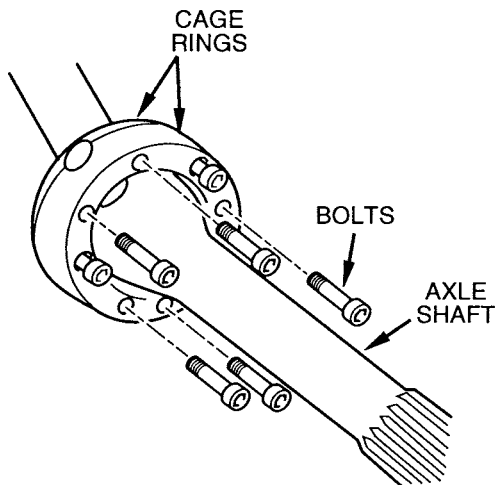

Figure 14 Separating Cage Rings
11. Insert a screwdriver into the slot in the dowel, spread and lift out the dowel. Take note of the quantity and thickness of the shims removed from the top and bottom trunnions. (See Figure 14).
18. Separate the ball shaft (21) from the axle shaft (19) using an allen wrench to remove the capscrews that hold the cage ring (20) together. (See Figure 14).